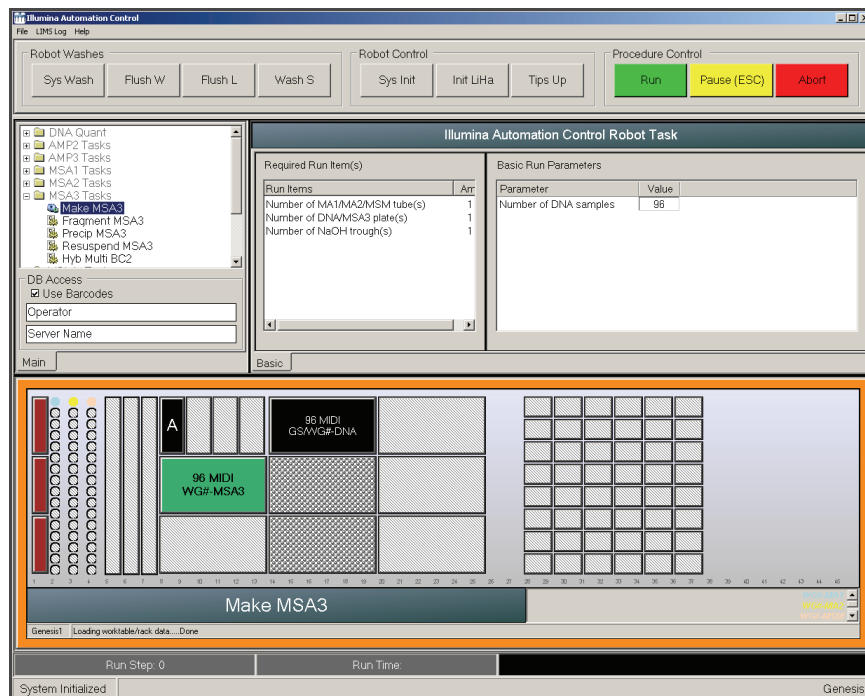

Figure 111 Make MSA3 Screen
6. Add 15 ml NaOH to the quarter reservoir, then place the reservoir on the robot bed according to the bed map (Figure 111).
7. Place the WG#-DNA and MSA3 plates on the robot bed according to the bed map (Figure 111).